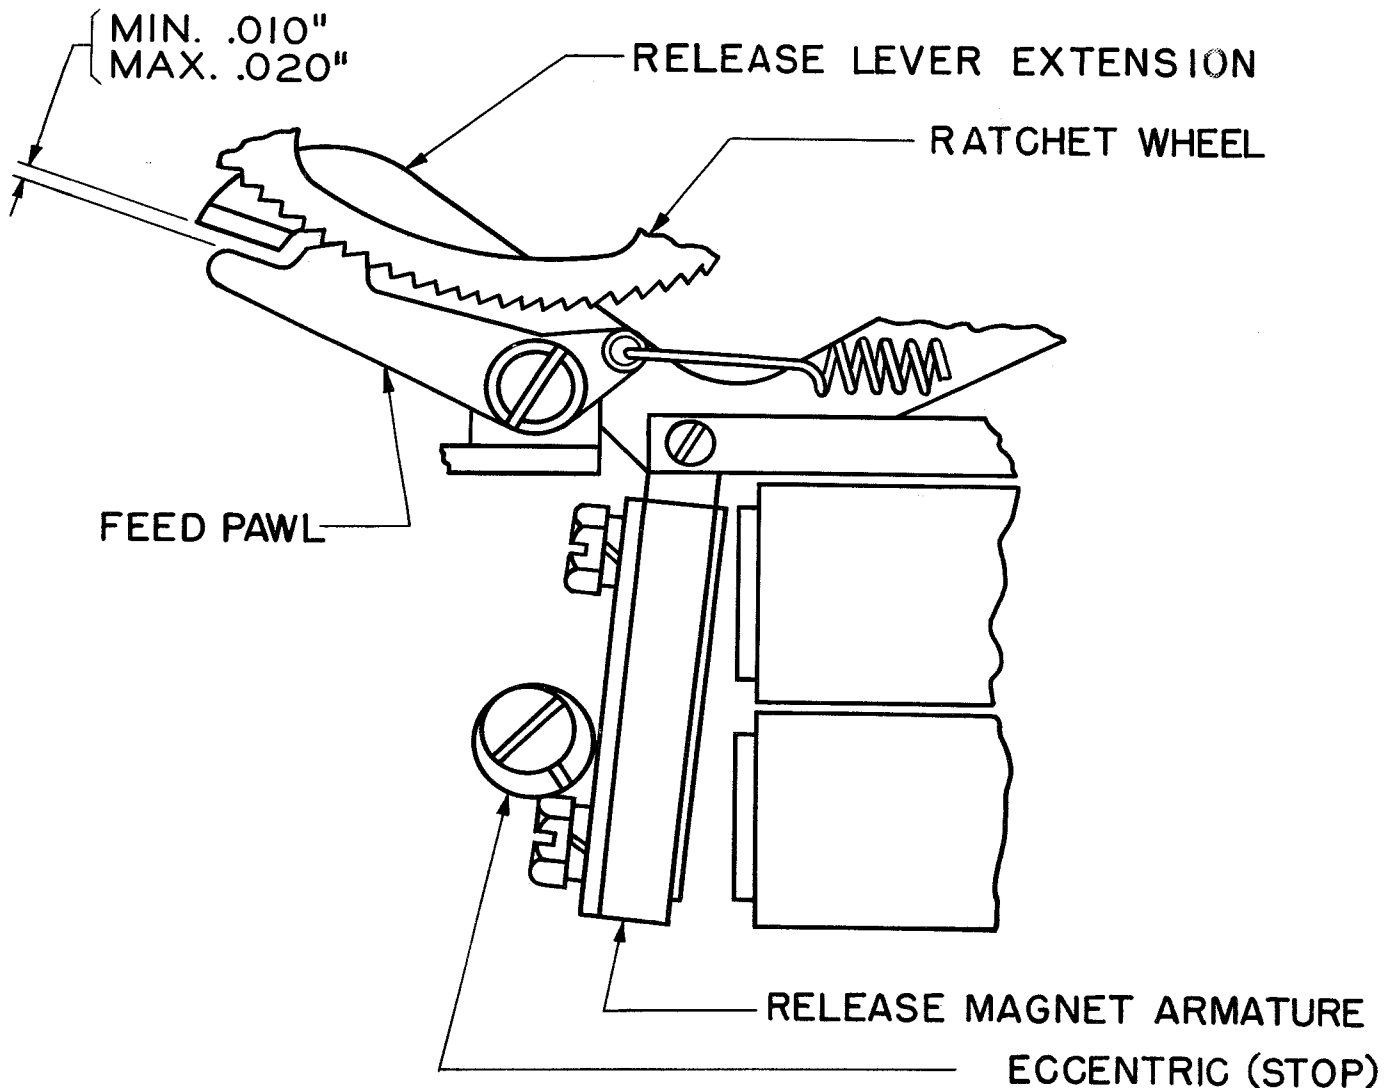

Figure 25
2.56 Release-magnet-armature Eccentric (Stop): There should be a clearance as specified in the figure between the release-lever extension and the feed pawl when the release-magnet armature is against its eccentric (stop). See Figure 25.